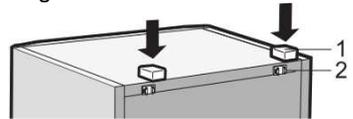

Fig. 1
- Remove the two spacers (1) and place them in the guides (2) at the top of the device's rear wall (fig. 1).